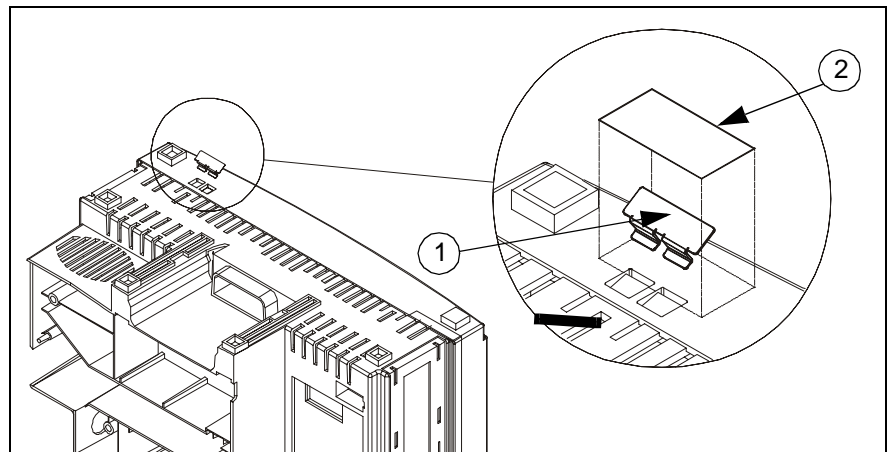

Figure 3-7 Security Clip ① and Tape ②
Note: On some monitors, peel-and-stick tape (② in Figure 3-7) covers locking clips (① in Figure 3-7) that prevent release of bottom release latches (one for each latch).